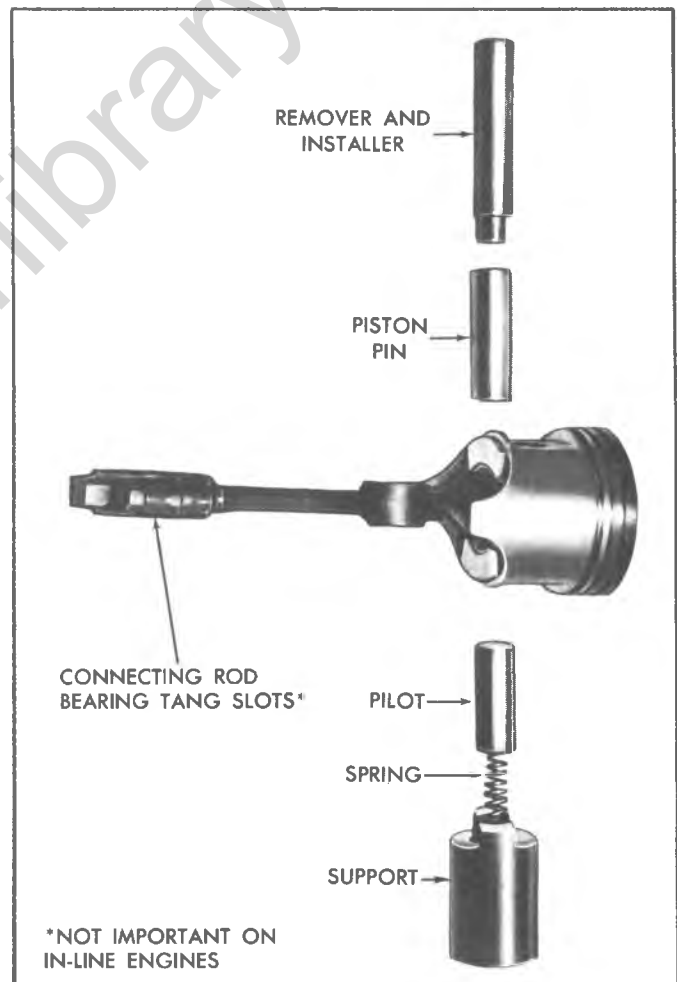
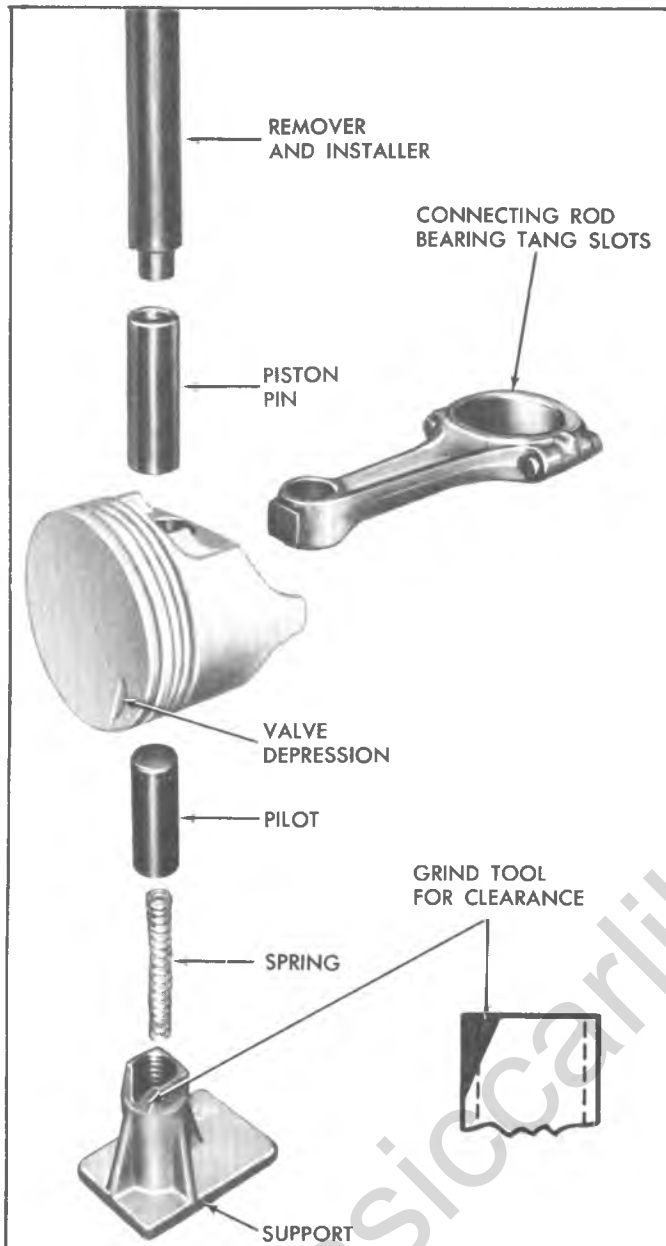

Fig. 52—Piston Pin and Tool Layout (In-Line and "Small V8")
Fig. 53—Piston Pin and Tool Layout ("Mark IV V8")
2. Using Tool J-9510 for In-Line and "Small V8" (fig. 52) or Tool J-6994 for "Mark IV V8" (fig. 53) place Support with spring and pilot in place on an arbor press.
3. Position piston on connecting rod with appropriate side of piston (fig. 55) and connecting rod bearing tangs aligned (fig. 52 or 53).